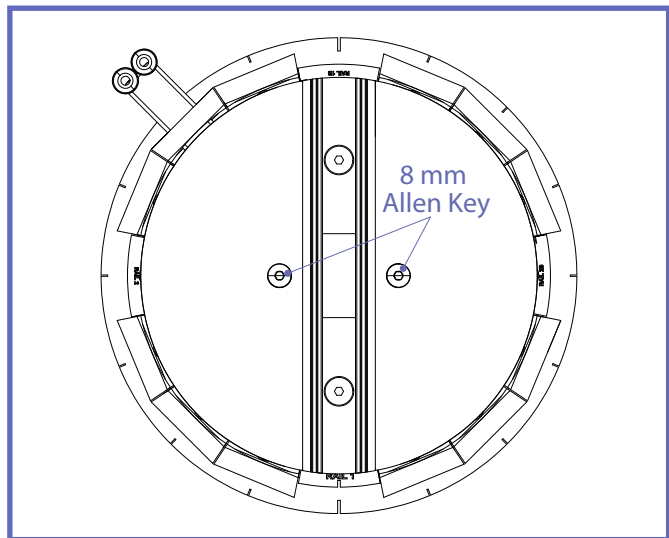

Fig. 17
- 1) Remove both covers, see Fig. 17.